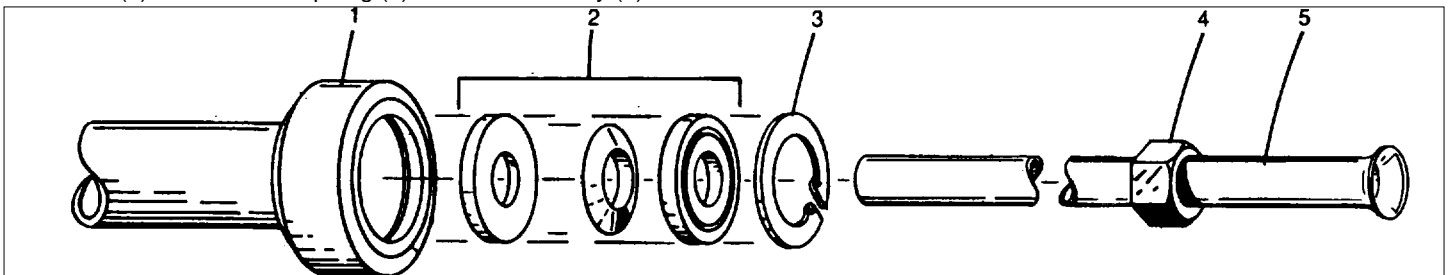

Fig. 2
- (b) Disconnect inner tubes (5) from rod cylinder anchor blocks (7), by loosening tube nuts (6).
- (c) Remove capscrews (3) which connect tube anchor blocks (2) to the cylinder case. Remove anchor blocks (2) and tube assemblies from the cylinder. Save any shims under the anchor blocks for replacement later.
2.2 Telescoping Tube Seal Replacement (Refer to Fig. 2)
- (a) Slide the inner tube (5) out of the outer manifold (1).
- (b) Remove snap ring (3) and seal assembly (2)